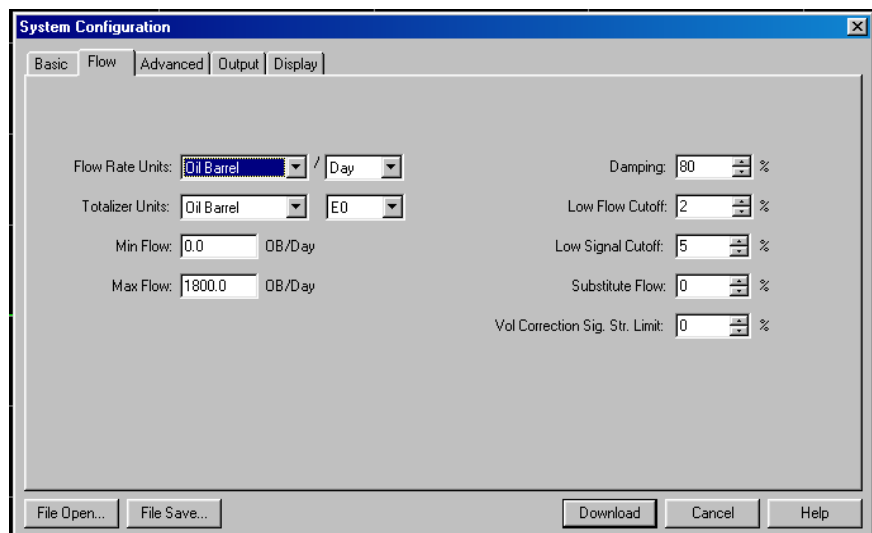

Figure 4.3
2. **FLOW TAB** - see **Figure 4.3**